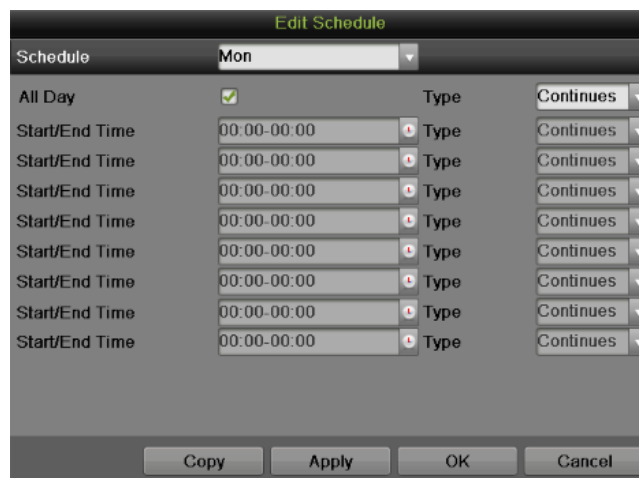

Figure 42 Edit Schedule Menu
- 1) Click the Edit button on the bottom right to pop-up the Edit Schedule menu, as shown in Figure 42.